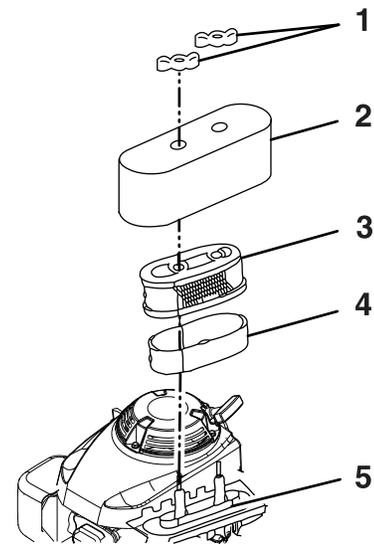

Figure 24
3. Remove the two wing nuts that secure the cover (Figure 24).